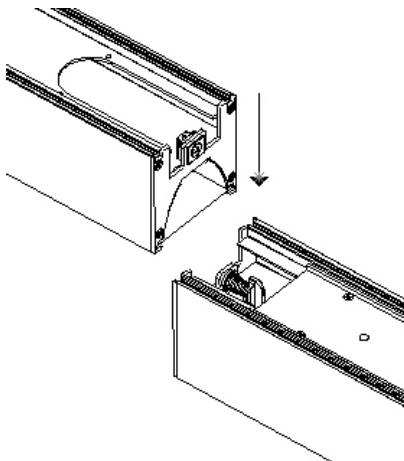

Fig. 2
3. Attach **Middle Fixture** or **End Fixture** depending on row length by compressing and rotating quarter turn fastner. (Fig. 2 & 3)